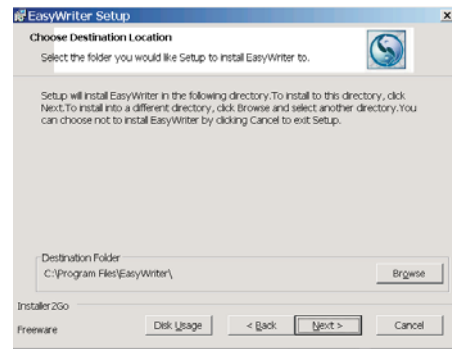

Fig. 4
- Step 4 : Double click the EasyWriterV2.4p2 icon to install the Application as Fig. 4.